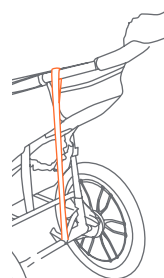

Fig. 18c
- The safety strap must remain connected to the rear lower frame cross member at all times. This location is intended to prevent the stroller being tipped backward in the event that you do fall to the ground. The safety strap includes a hook and loop attachment for storage, on the left side of the stroller, when not in use (Fig. 18c).